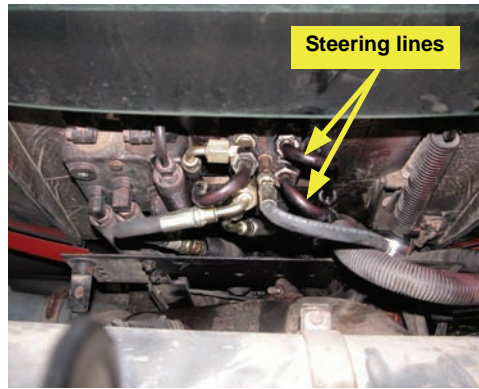

Figure 2a: Left and right steering lines
- a. Locate the left and right steering lines on the top left side of the steering orbital in front of the cab (Figure 2a).